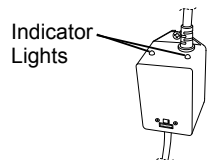

Figure 7
18. Reinstall the black bulb boot (8) back over the quartz seal compression nut (7).
19. Reinstall the enclosure cover (10) with gasket (9) and secure with the screws.
22. Once power is activated you can check the ballast (12), Figure 7, to see if the CLEARRAY System is functioning. A solid green light indicates that the CLEARRAY System is being provided power and should always be on. A solid red light indicates that UV bulb is activated.